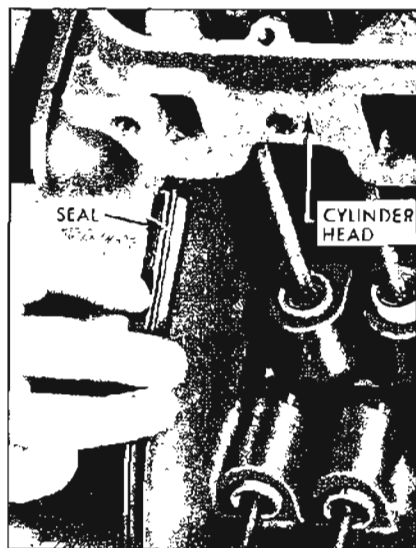

Figure 2-30—Installing Intake Manifold Seals
1. Place new rubber manifold seat in position at front and rear rails of cylinder block. Be sure pointed ends of seal fit snugly against block and head. See Figure 2-30.